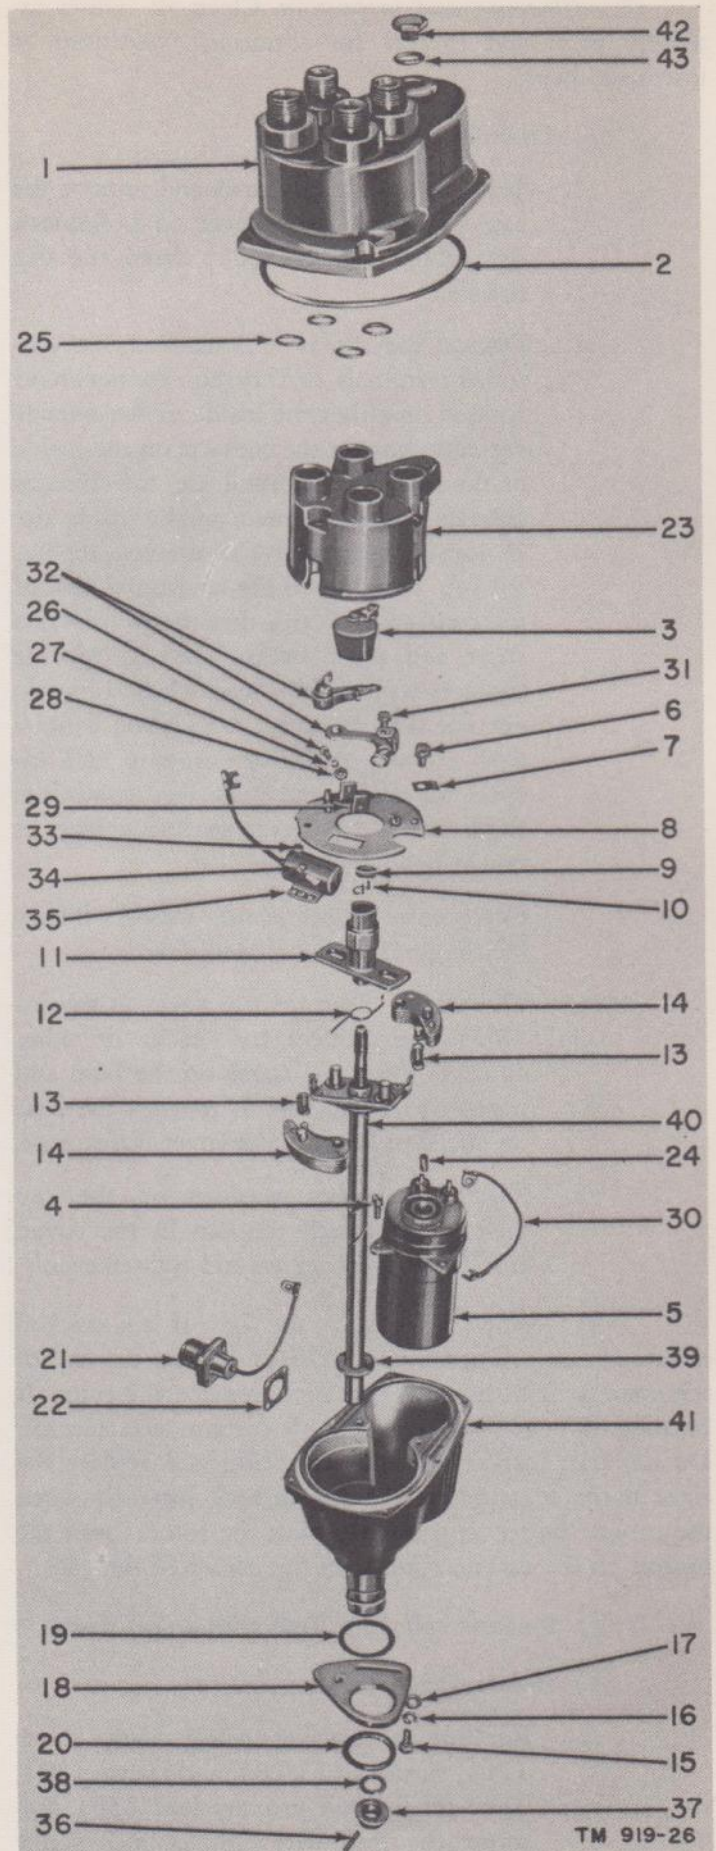

Figure 26. Igniter assembly, exploded view.
b. **IGNITER ASSEMBLY** (fig. 26). After the igniter assembly has been removed (par. 53l), proceed as follows:
LEGEND FOR FIGURE 26